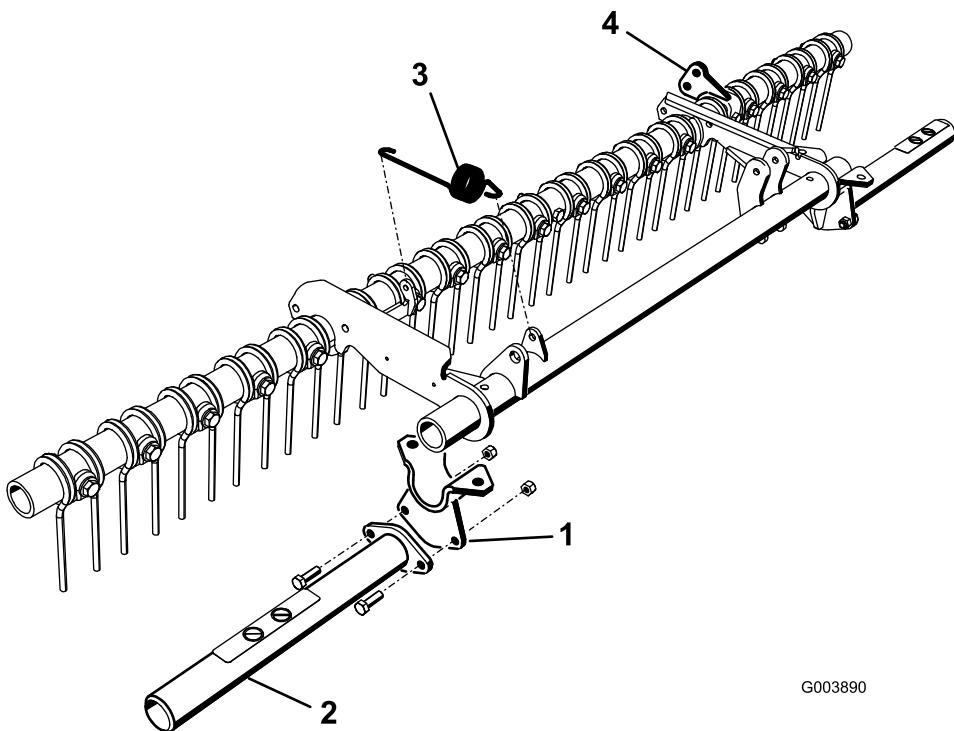

Figure 2
3. Replace the pivot tube bracket with a saddle bracket and secure it to the frame with the bolts and nuts previously removed (Figure 2).
5. Mount a guard to the outside of each saddle bracket with 2 bolts and nuts (Figure 2). Position the guards so that the decals face up.
6. Hook the short end of the extension spring (included in kit) to the tab on the pivot tube (Figure 2).
7. If the pivot bracket and bolt (3/8 x 2-3/4 inches) are not installed, install them on the left side of the toolbar between the fourth and fifth set of tines (Figure 2).
9. When finished, hook the long end of the extension spring to the tab on the tool bar spring bracket (Figure 2).